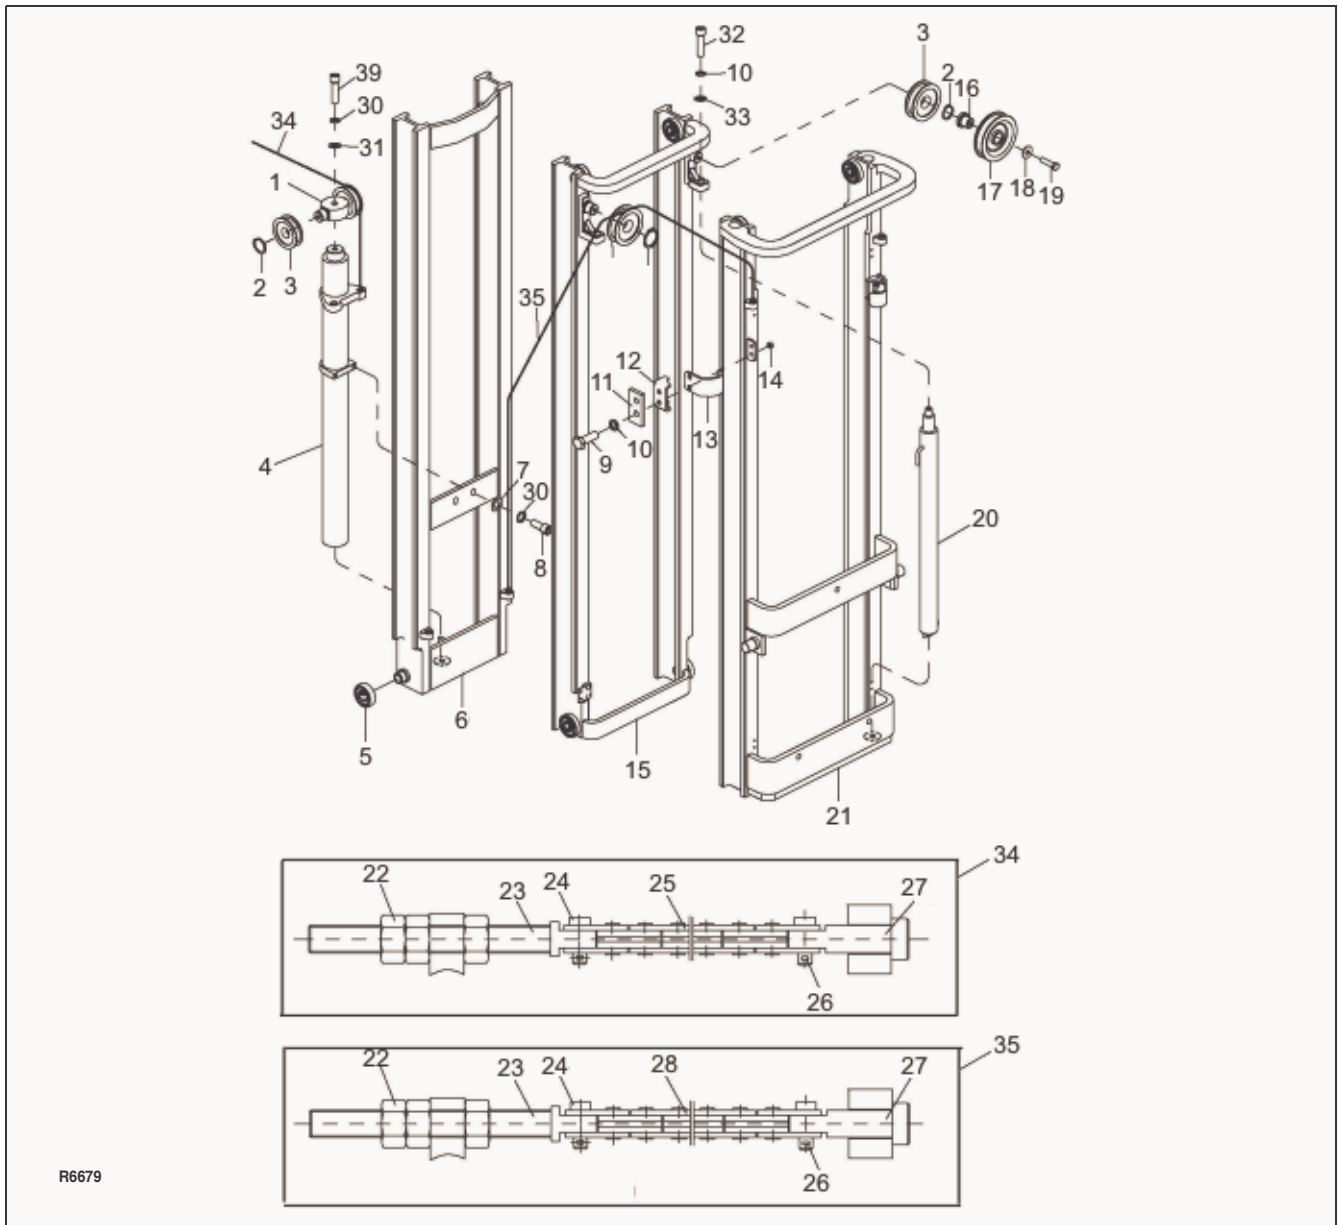

Figure 9-2 Hydraulic System (TRIMAST)
**TRIMAST Trucks:** Refer to Figure 9-2 and remove leaking line or fitting and replace it with a new line or fitting.